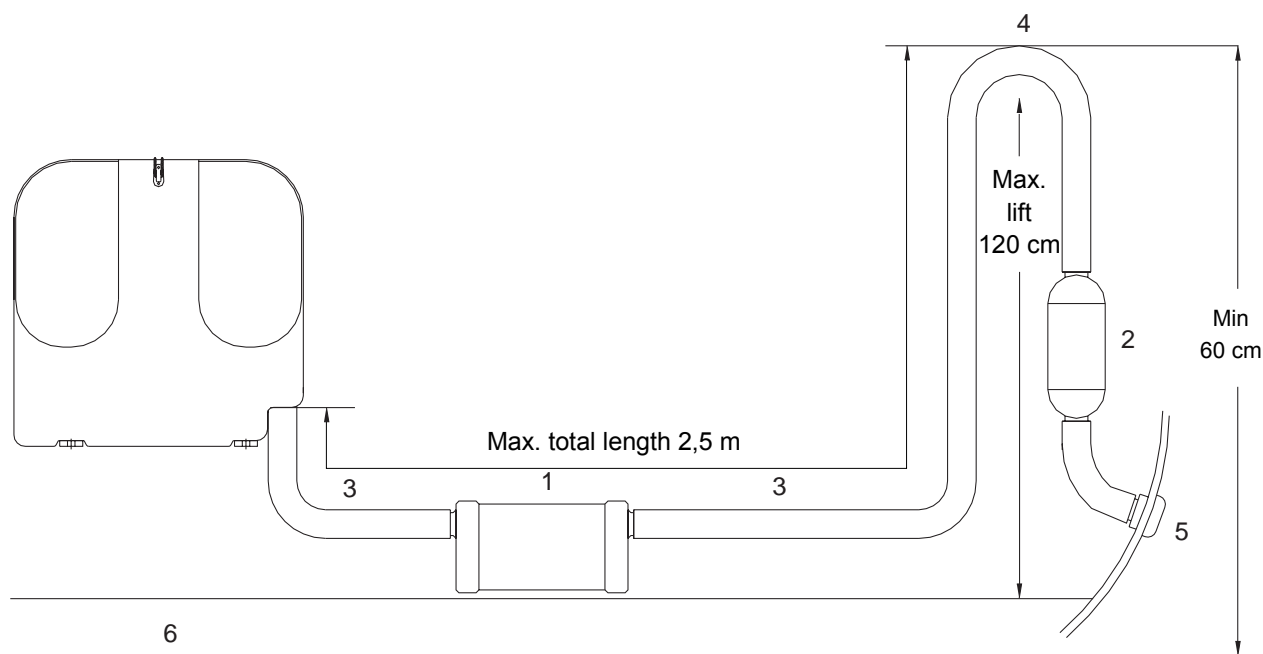

Fig 7
is recommended to install an extra muffler fig.7 (2) close to the through-hull fitting.